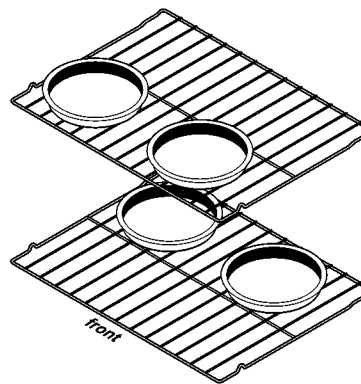
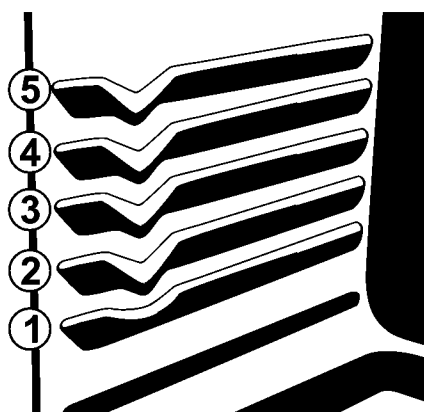

Figure 33: Pan spacing for convection baking
Figure 34: Rack positions
- When baking cakes using two oven racks, place bakeware in positions 1 and 4 (Figure 34) and place pans as shown in Figure 33. Use a flat rack in position 4 and a glide rack in position 1.